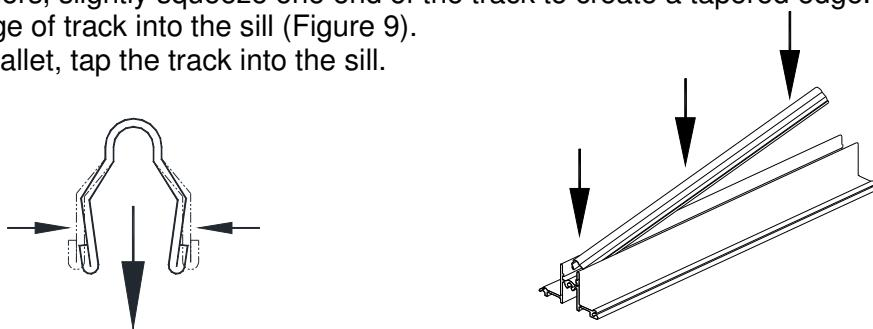

Figure 9:
2. Push tapered edge of track into the sill (Figure 9).